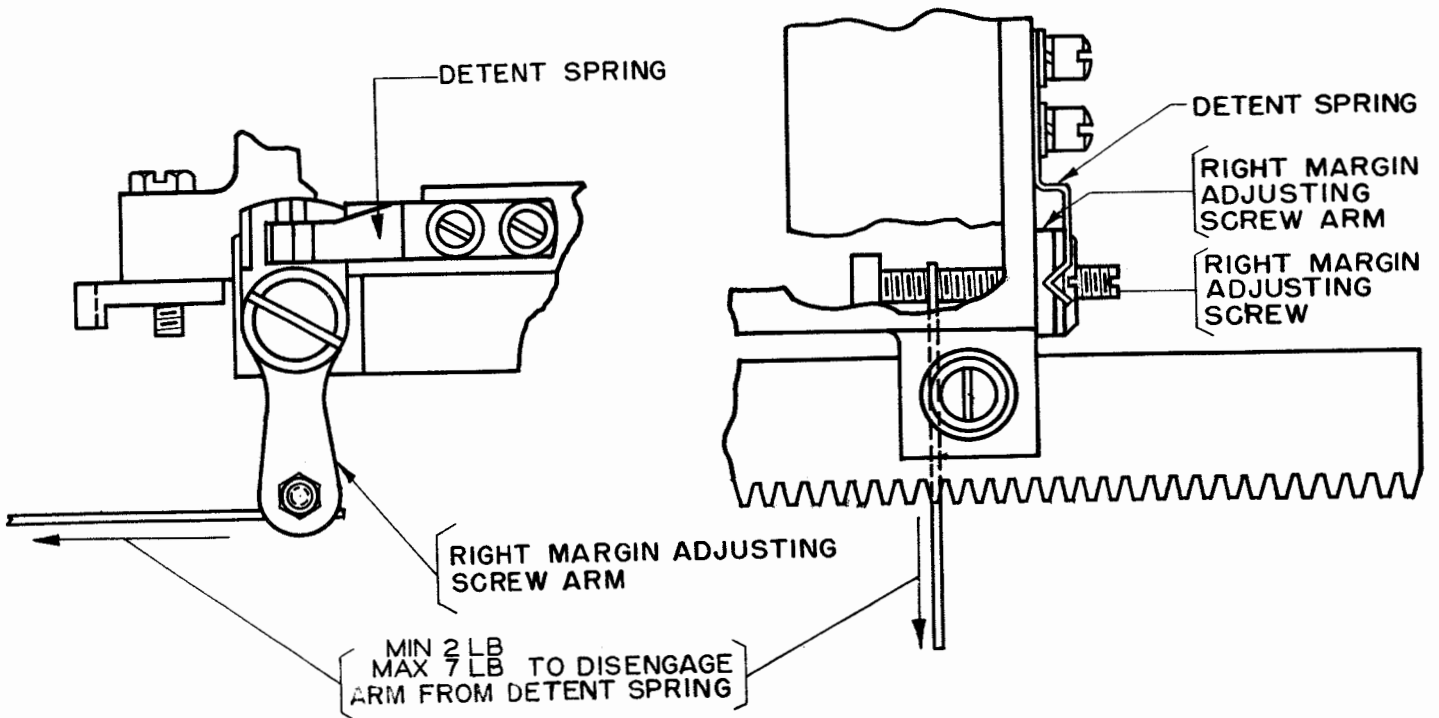

Figure 20
2.32 Right-margin Adjusting-screw-arm Spring should have a tension of minimum 2 pounds, maximum 7 pounds. See Figure 20.